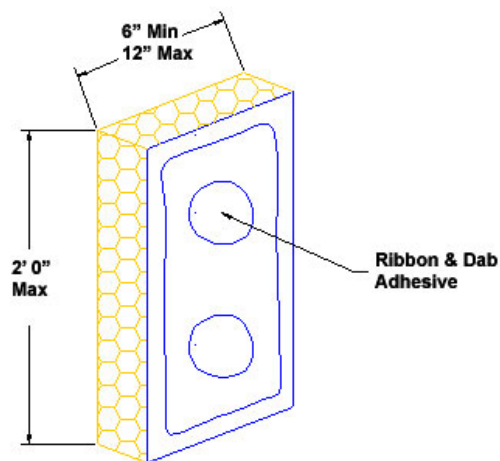
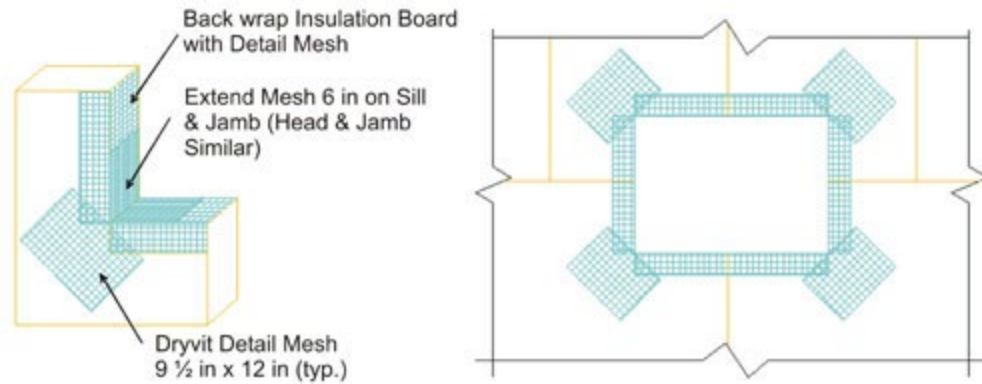

Fig. 11
Fig. 21
- b. Apply the Dryvit Adhesive mixture to the back of the Closure Blocks using a ribbon and dab adhesive pattern as shown in Figure 11 and position along the compartment separation line as shown in Figure 21.
- a. At penetrations, align the Closure Blocks so that the edges (vertical and horizontal joints) do not coincide with the corners of the opening as illustrated in Figure 21.